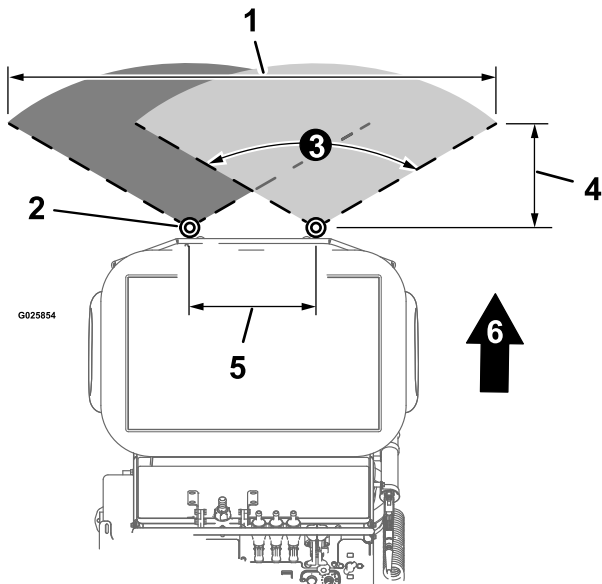

Figure 40
- The wide spray pattern (Figure 40) on this machine is 274 cm (108 inches) wide.